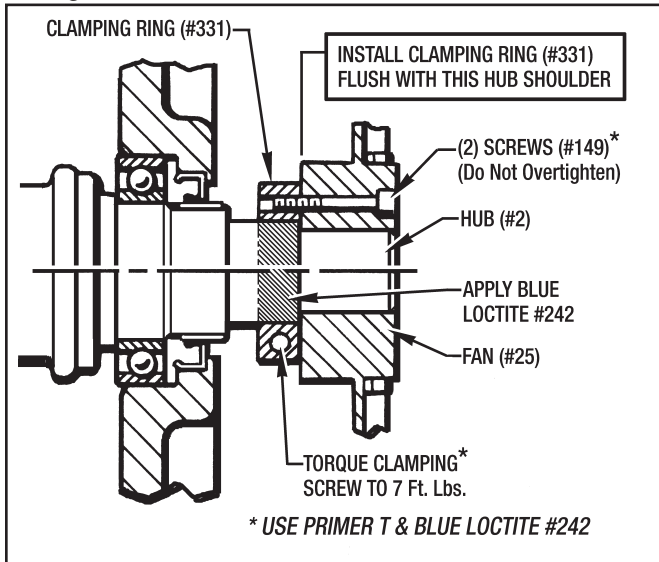

Figure 9.9 - Installing Cooling Fan (#25)
(See Figures 9.9 and 10.2)
3. Position the Clamping Ring (#331) on the Hub (#2) so it is flush with the Hub (#2) shoulder as shown in Figure 9.9.